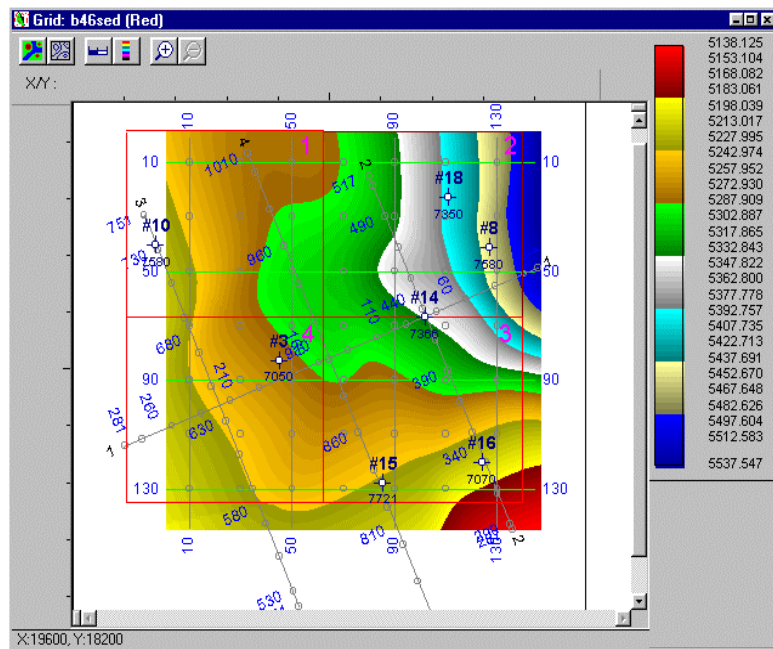

Figure 23: Depth conversion obtained from *Formation Top* method with extrapolation to the borders of the survey.
- 3) The **Formation Top** method starts with the formation top depth, converts it to time using the well time/depth function and then generates a velocity grid. If the horizon and formation top do not tie, three different velocities can be generated. Use the default grid parameters as a first pass for each velocity map. Depths obtained from this approach (Figure 23 and 24) reveal subtle differences.